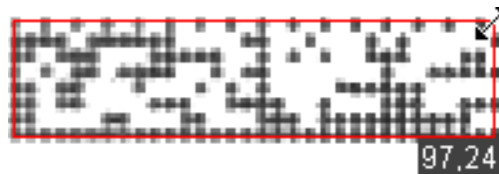

Figure 3-8: Editing 2D Data Matrix Size (Shown at 200% Zoom)
- If '2D Sym, T7 Data Matrix' is the selected **Mark**, Size defines the height and width expected for the entire 2D symbol. To set the size for 2D symbols, position the Size box so that it aligns with the centers of the corner cells of the matrix, as shown in Figure 3-8.